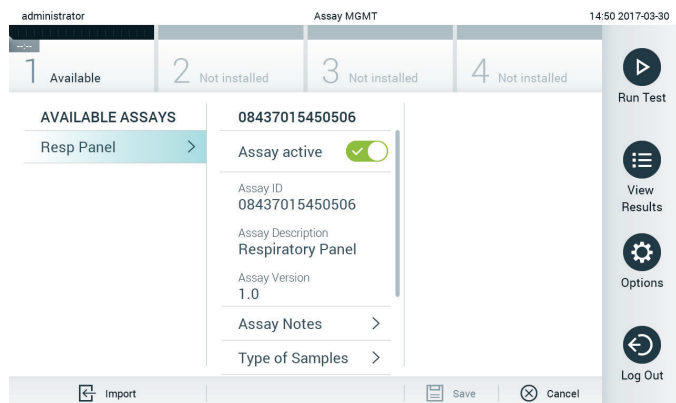

Figure 54. Managing available assays.
1. Press the **Options** button and then the **Assay Management** button to access the **Assay Management** screen. The available assays are listed in the first column of the content area (Figure 54).